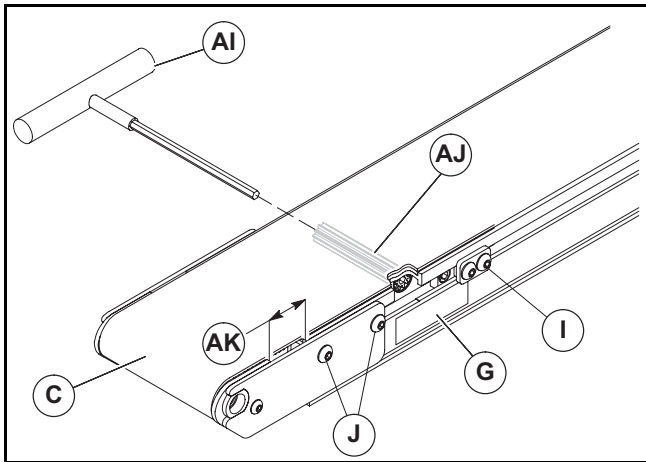

Figure 15
1. Locate tension end (Figure 15, item C) of conveyor, identified with a label (G).